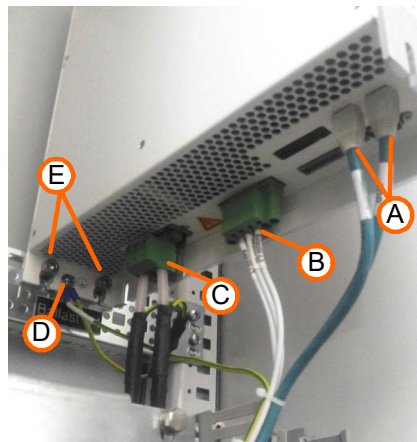

Figure 10-40: Cables to be Disconnected & Bolts to be removed or loosened
- Step 17.** Reconnect the ground wires marked **D** in **Figure 10-40** on page 139 and fasten the nut tightly.
- Step 18.** Reconnect the ground wires marked **D** in **Figure 10-40** on page 139 and fasten the nut tightly.
- Step 19.** Reconnect the green connectors marked **B** and **C** respectively in **Figure 10-40** on page 139 and fasten the screws on each side.